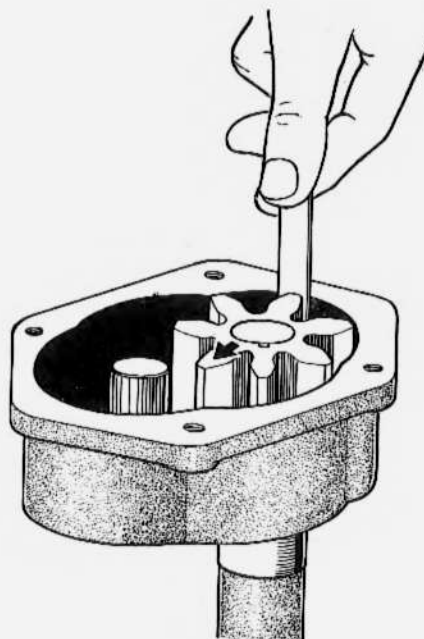

Figure 35 - Checking Pump Shaft Clearance
(4) Remove idler gear and install pump shaft with main gear attached to pump. Press gear toward center of pump body and measure clearance between gear teeth and pump body with feeler gage (Fig. 35). If clearance exceeds 0.2 mm, replace gear or shaft, or both. If clearance still exceeds the limit after replacement, replace pump assembly.